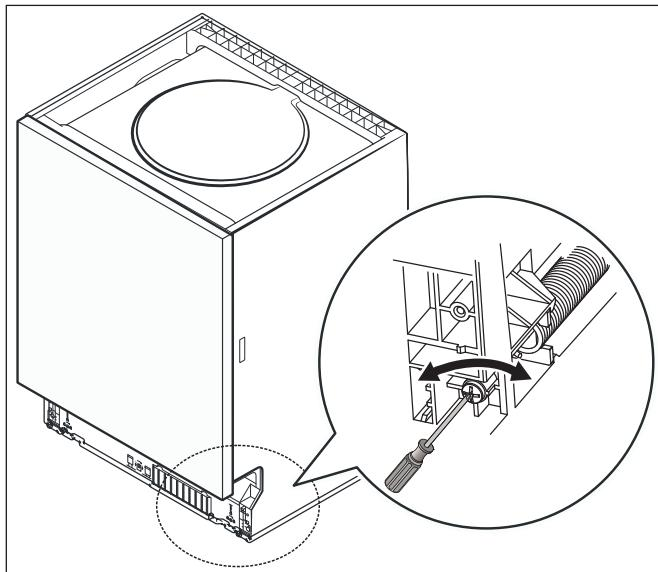

Fig. 16
- You adjust the strength of the springs using the screws located on the bottom part of the front of the dishwasher (Fig. 16).
- You adjust the strength of the springs (left and right) using the screws located on the bottom part of the front of the dishwasher (Fig. 16). To increase the strength turn clockwise. To decrease the strength turn counter clockwise.